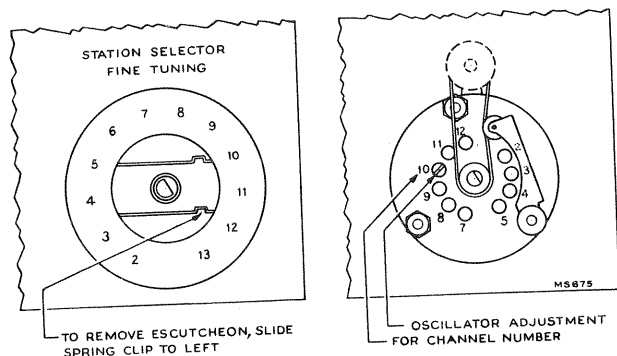

Figure 4—R-F Oscillator Adjustments
**CHECK OF R-F OSCILLATOR ADJUSTMENTS.**—Tune in all available stations to see if the receiver r-f oscillator is adjusted to the proper frequency on all channels. If adjustments are required, these should be made by the method outlined in the alignment procedure. The adjustments for channels 2 through 5 and 7 through 12 are available from the front of the cabinet by removing the station selector escutcheon as shown in Figure 4. Adjustment for channel 13 is on top of the chassis and channel 6 adjustment is in the kinescope well.